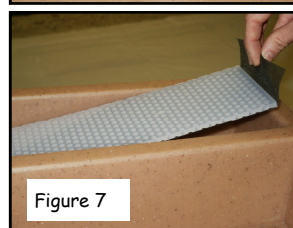

Figure 7
4. **Install the Flat Strainer.** (figure 7) Flat Strainer is placed into its mating area on the Top. Do not fold the screen under the perforated strainer. The extra material at each end is meant to be a convenient point to grab when you want to remove the strainer. Your Niño Rain Barrel is now ready to enjoy!